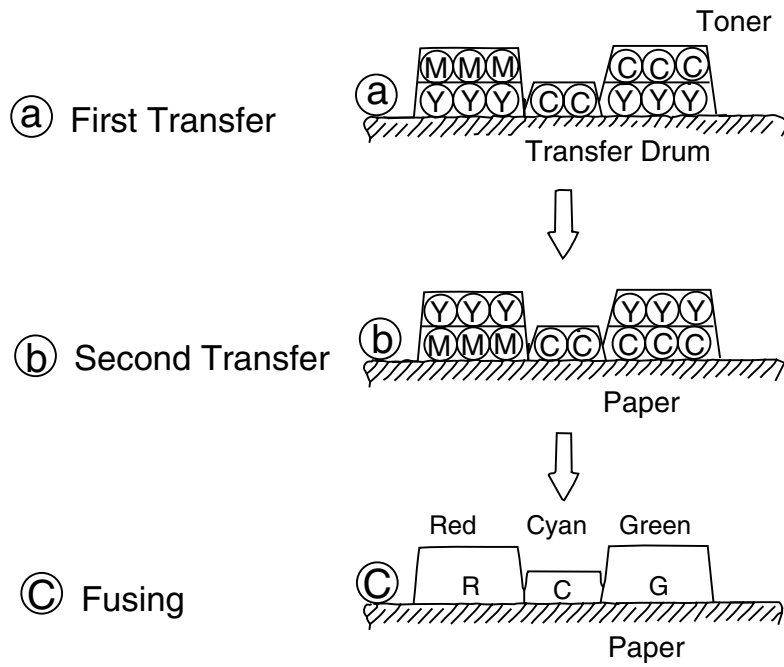

Fig. 4-4
- (b) The toner image developed using the primary colors is transferred to the transfer drum for the printed color combination as shown in Fig.4-4 (a).
- (c) The toner image formed on the transfer drum is transferred to the transported paper as shown in Fig.4-4 (b).
- (d) The toner on the paper is fused by the thermal fixing unit to fix the toner image onto the paper as shown in Fig.4-4 (c).